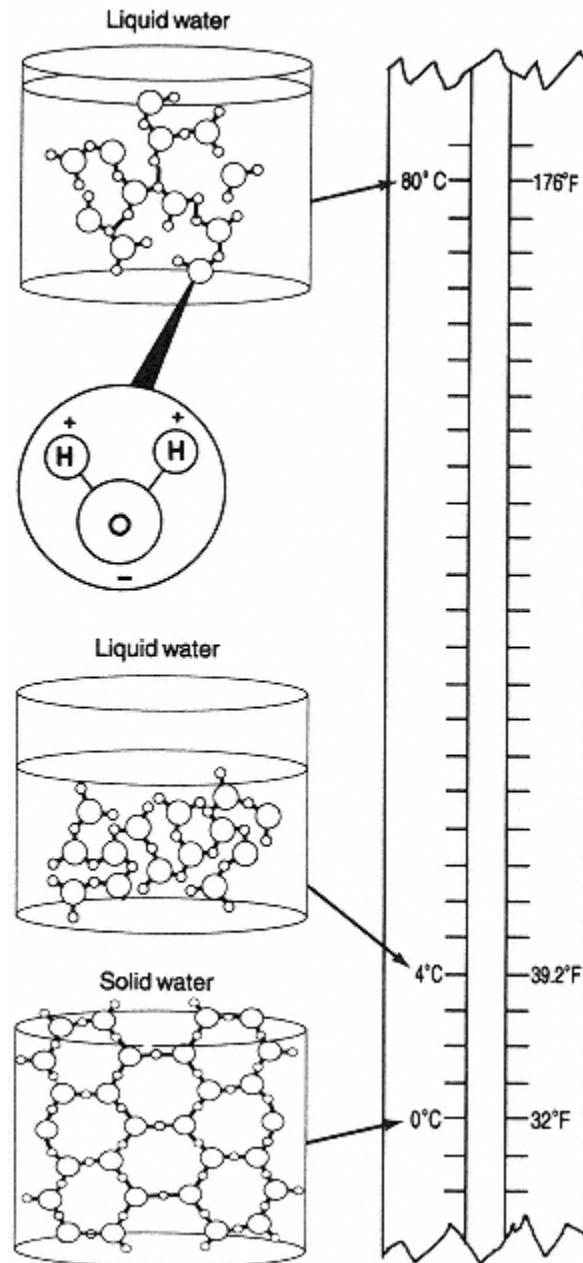

Figure 25.2
2. The normal reaction to changes in temperature for most substances is that they expand when heated and contract when cooled. Water contracts when cooled from a warm temperature until it reaches 39.2° F (4°C). At this temperature, water is the most dense because the molecules occupy the least amount of space. As the temperature decreases, the density of water decreases as the molecules move farther apart. At 32°F (0°C), water freezes and occupies the most space (see Figure 25.2). The expansion of the ice structure exerts enough force to break apart rocks when liquid water that has seeped into cracks in the rocks freezes.